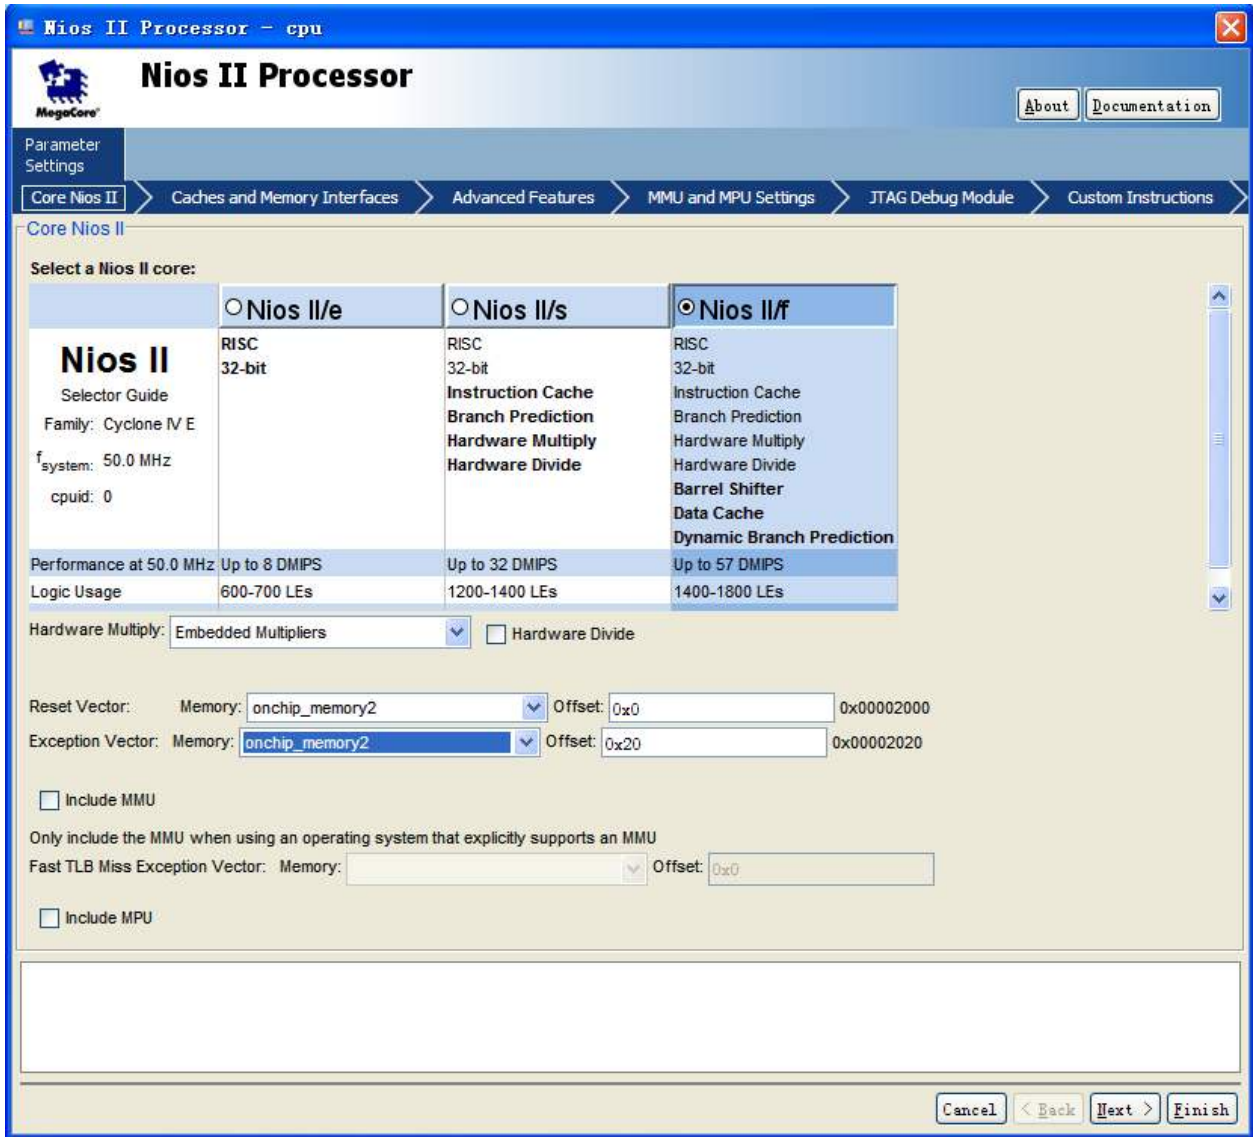
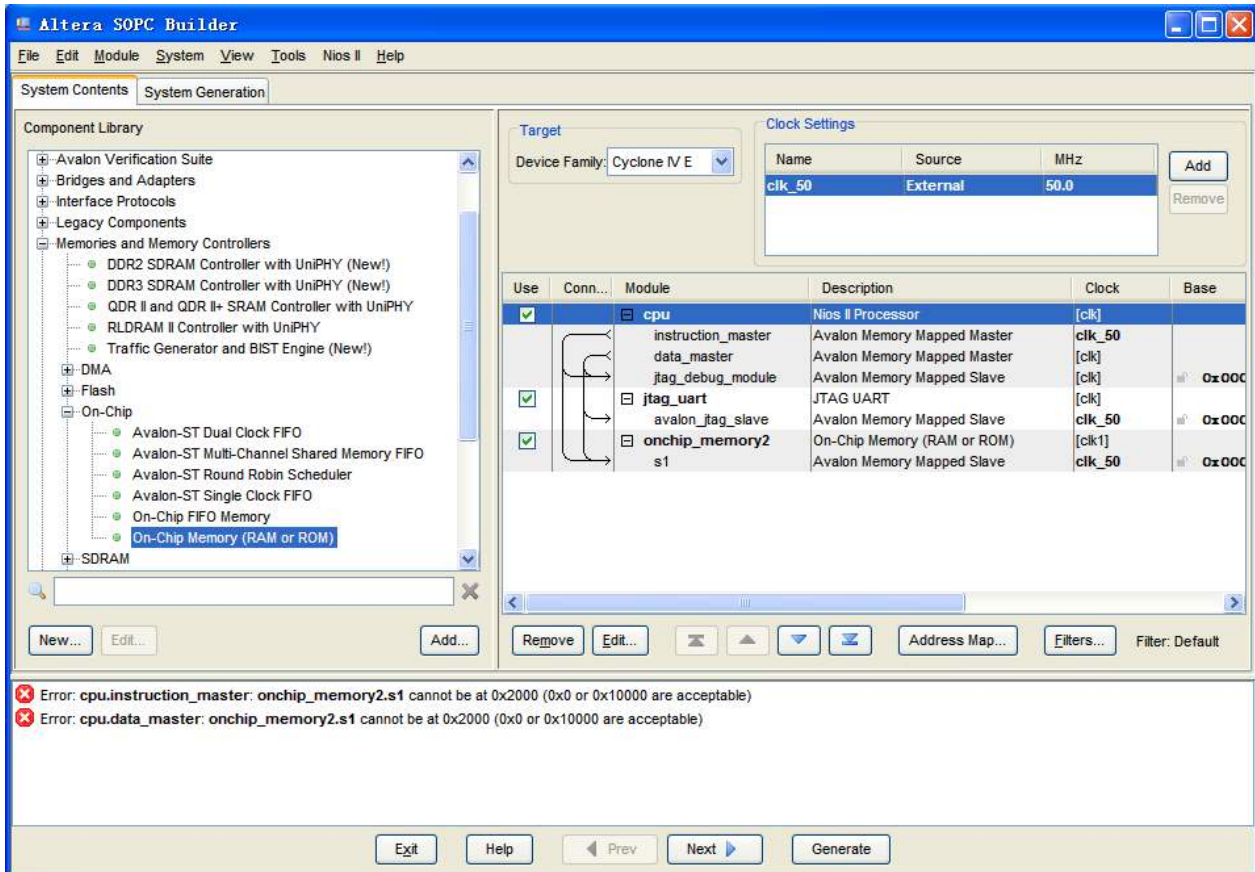

Figure 7-28 Update CPU settings
Figure 7-29 Updated CPU settings
18. Right click on the `cpu` component table and select `Edit...` from the list. Update the Reset Vector and Exception Vector as shown in Figure 7-28. Then, click `Finish` to return to the window as shown in Figure 7-29.